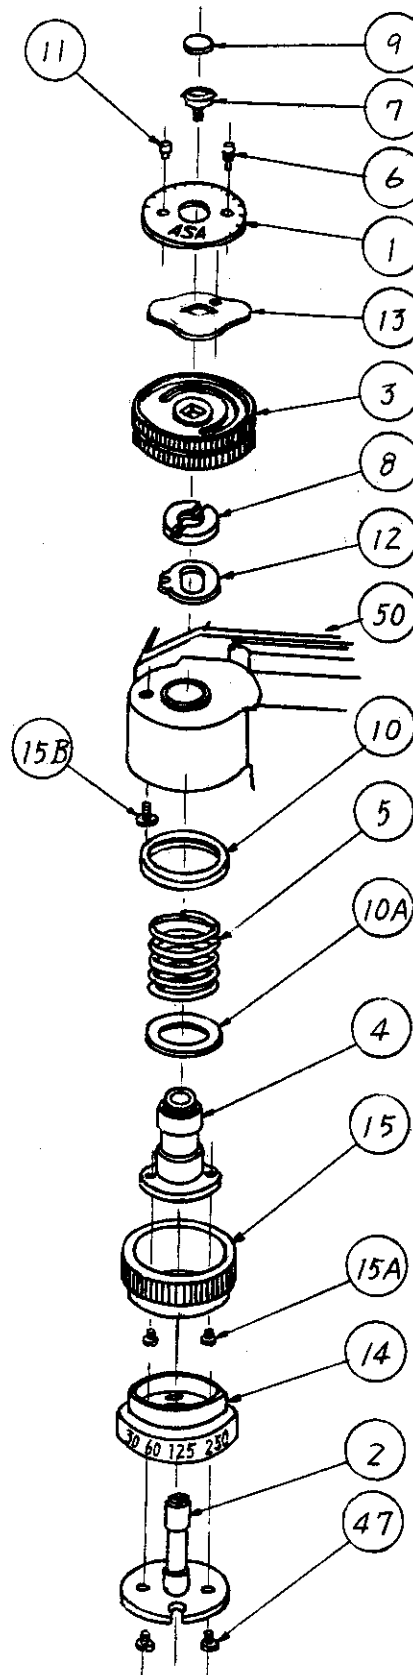

Fig. 1
1. Replacing ASA (film speed) scale assembly (#1, #6 and #11). See Fig.1.
2. Replacing T-dial knob (#3). See Fig. 1.
- 2 - 3 Bring the numeral 1000 on the T-dial coupling (#14) opposite the index dot on #50 (finder body). Insert T-dial shaft #2 into the square hole in the knob #3 in such a way that the F-number figure 1.4 on the side of the knob #3 comes to halfway between the figures 1 and 2 (of #14).
3. Replacing T-dial coupling #14. See Fig. 1.
4. Replacing T-dial gear #15. See Fig. 1, 2, 3 and 5.
6. Disassembling switch assembly. See Fig. 1, 2, 3 and 5.